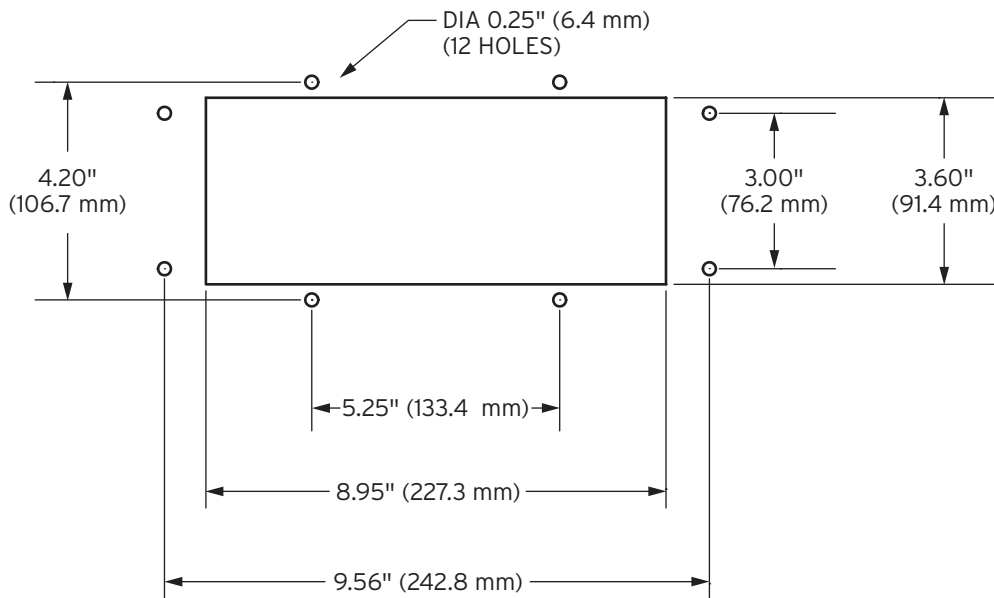

Figure 2 Panel Cut and Drill Diagram for SEL-9104
- Step 1. Using the rear bracket as a template, cut the panel opening and drill mounting holes according to *Figure 2*.